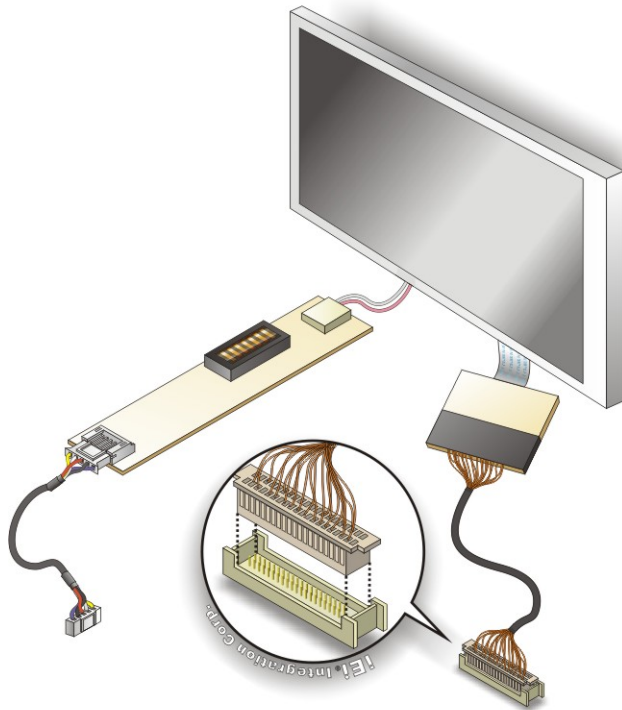

Figure 4-9: TTL Connector
- Step 2: Insert the cable connector.** Insert the connector from the TTL PCB driving board to the TTL connector as shown in **Figure 4-9**. When connecting the connectors, make sure the pins are properly aligned.